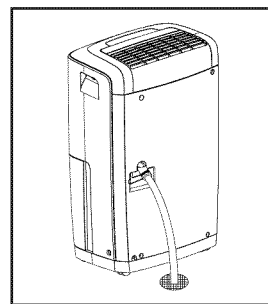

fig. 4
- Place the end of the hose into the drain. (fig.4)